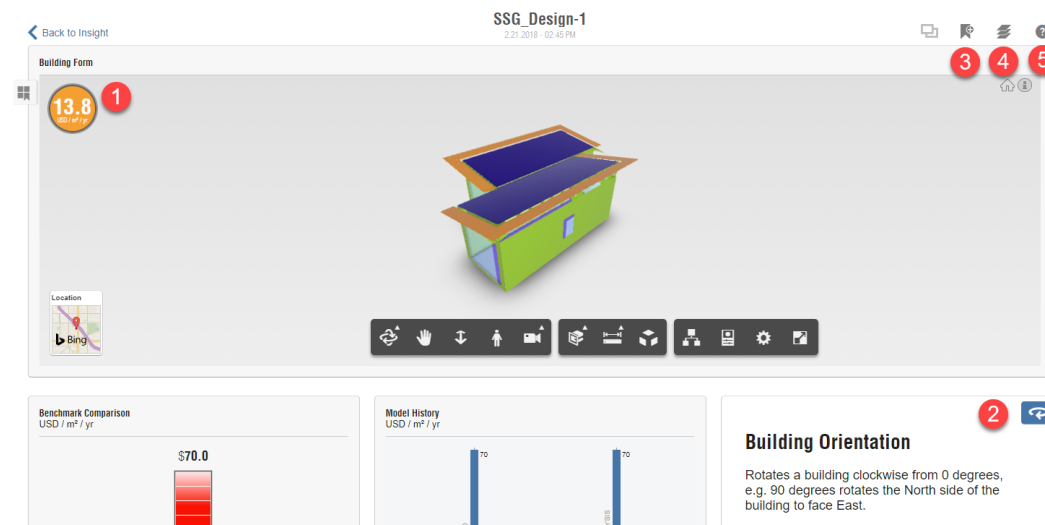

Figure 1.8: The 5 main areas of the Insight interface
On the interface there is 5 main items to know about. (1) Understand your design’s Energy Cost or EUI, (2) The key factors driving building energy performance, (3) Use the factor ranges to explore different outcomes and sensitivity, (4) Save scenarios and compare those scenarios to visualize potential energy savings, (5) Visualize PV energy generation potential and heating and cooling loads in your model context, see Figure 1.8.